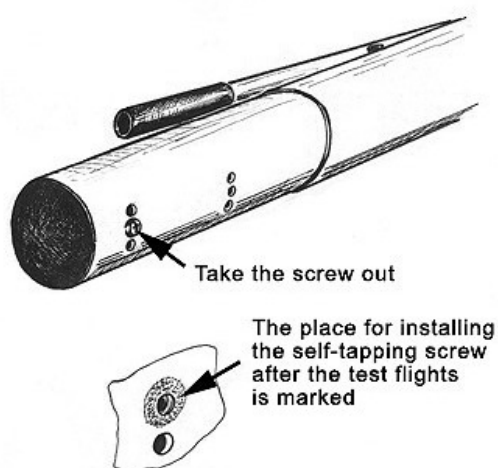

Fig. 2
2.1.5. There is a self-tapping screw for the turn adjustment at the outer part of the leading edge # 3. The position of the self-tapping screw has been determined and marked after the test flights. Take the screw out before installing the leading edge tube # 3 (Fig. 2).